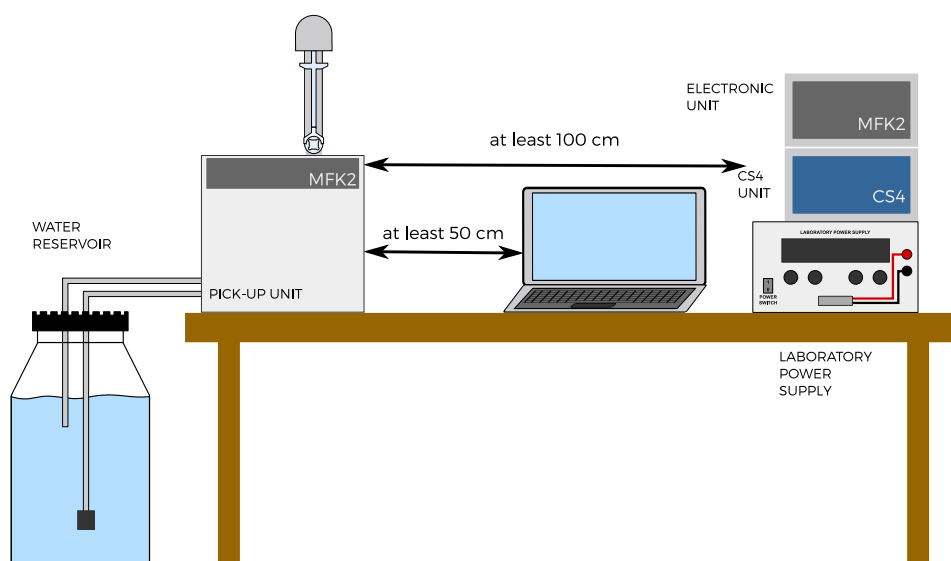

Figure 1: Recommended layout of MFK2/CS4 apparatuses parts
-  Fig.1 shows recommended layout of MFK2/CS4 apparatuses parts.